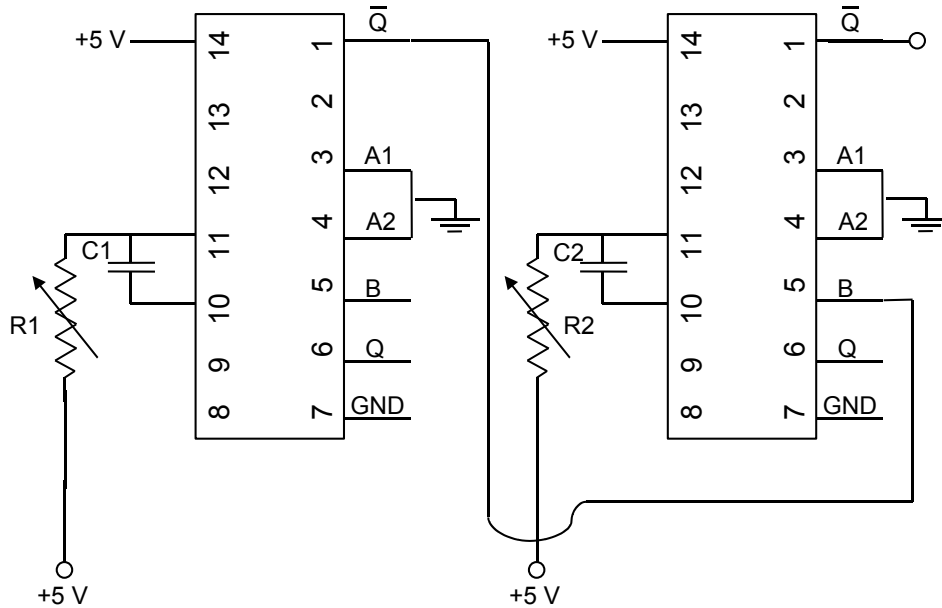
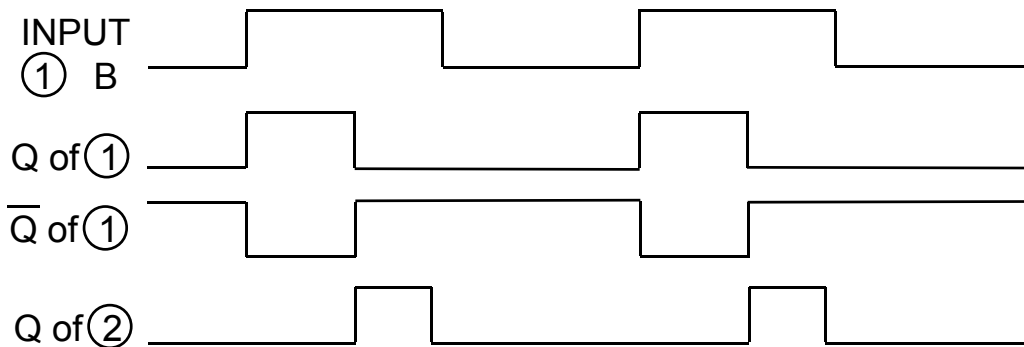

Figure 3. Two 74121s to produce a variable width, variable delay pulse.
Figure 4. Timing diagram for dual monostable circuit.
D. Generation of pulses of desired delay and width. Set up the circuit shown in Figure 3 to generate output pulses of a desired width and delay from the input signal. (Use variable resistors for each monostable. Select values for R and C that produce delays and widths that are conveniently viewed on the oscilloscope.) A timing diagram for the circuit is shown in Figure 4.